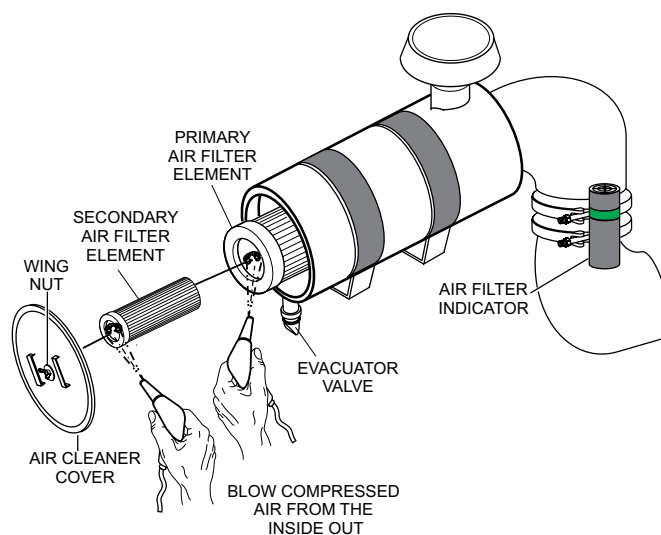

Figure 51. Air Cleaner
This Cummins diesel engine is equipped with a replaceable, high-density paper air cleaner element (Figure 51). This air cleaner is also equipped with an inner element (secondary) that is used as a backup filter should the primary element becomes damaged.
- To clean the primary element (paper air filter) as referenced in (Figure 51), tap the filter element several times on a hard surface to remove dirt, or blow compressed air (not to exceed 30 psi (207 kPa, 2.1 kgf/cm2) through the filter element from the inside out.